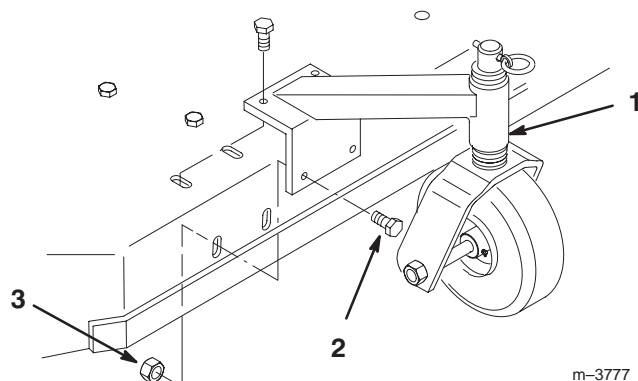

Figure 2
1. Align casters with holes on top and front of mower and insert 8 bolts (3/8 x 3/4 inch) through mower. Secure with 8 flange nuts (3/8 inch) below mower (Fig. 2).